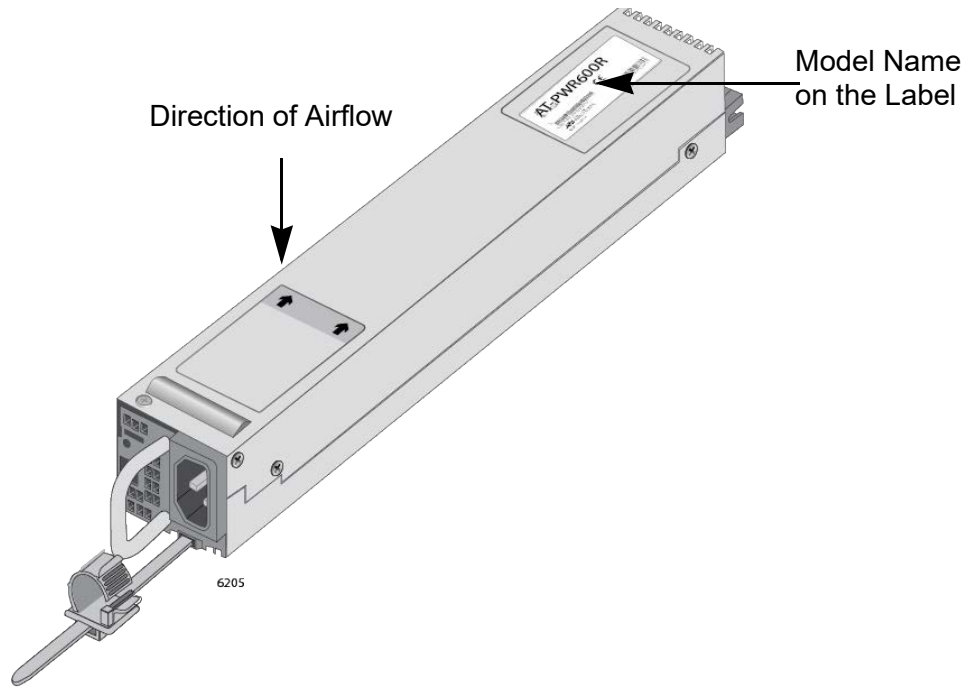
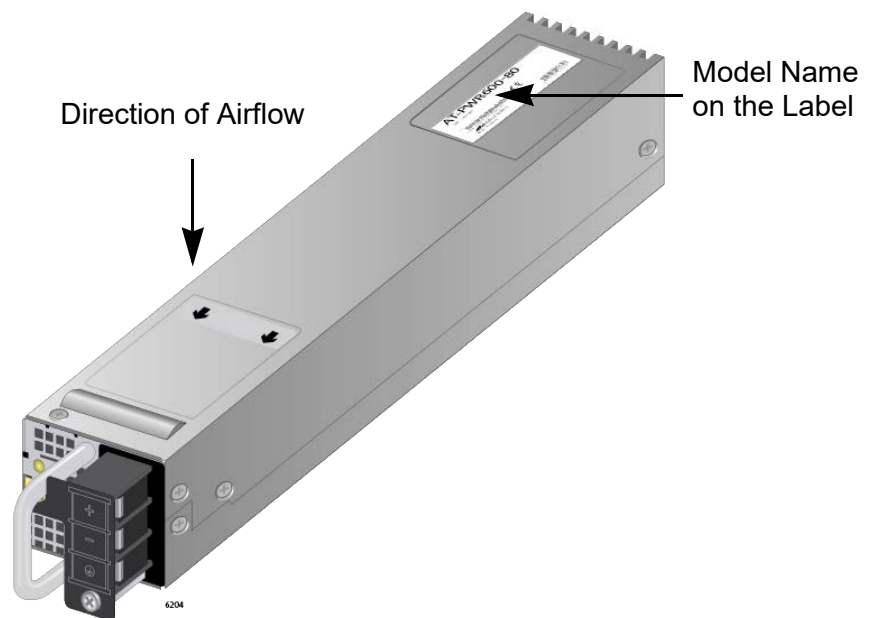

Figure 14. PWR600 AC Power Supply
Figure 15. PWR600 DC Power Supply
The x950 series switch supports the PWR600 AC and PWR600 DC power supply units. See Figure 14 and Figure 15.
1. The power supply model name is on a label attached to the top panel of the power supply as shown in Figure 14 on page 43 and Figure 15 on page 43.
You can find the airflow direction of the power supply by its model name as shown in Table 12 on page 44. In addition, the airflow direction is indicated on the label on the power supply with arrows. See Figure 14 on page 43 and Figure 15 on page 43 for the locations of the arrows.